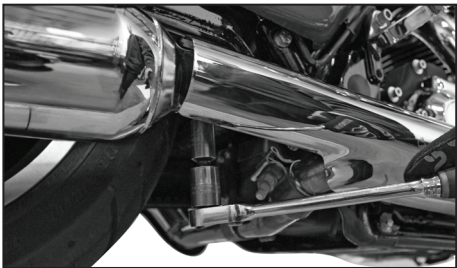

Fig.3
3. Locate and loosen the factory clamp at the inlet side of the OEM mufflers. (Figure 3)